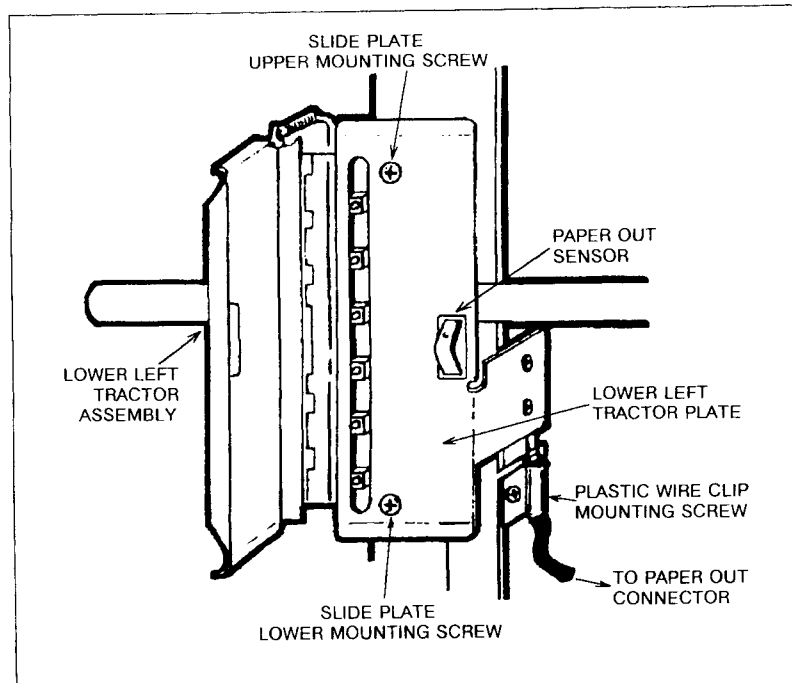

Figure 6-42. Paper Out Sensor
The Paper Out sensor is located in the lower left tractor assembly. It consists of a switch that is activated by paper passing over the tractor plate (see Figure 6-42).
- f. Remove the two small Pozi-drive screws mounting the slide plate and sensor assembly to the tractor (see Figure 6-42).
- g. Remove the horizontal screw securing the plastic wire clip to the bracket on the bottom of the tractor assembly (Figure 6-42).